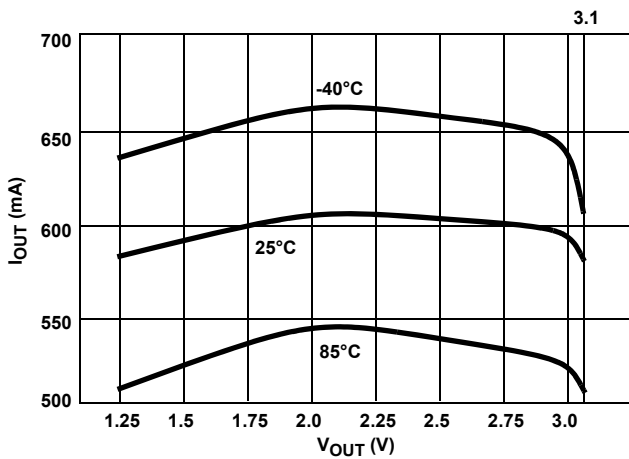

FIGURE 4. CURRENT REGULATION vs V_{OUT} (V_{IN} = 3.3V)
The ISL6118 has integrated current sensing on the power MOSFETs that allows for rapid control of OC events. Once an OC condition is detected the ISL6118 goes into its current regulation (CR) control mode. The ISL6118 CR level is set to a nominal 0.6A and is regulated to within $\pm 25\%$ over full temperature, bias voltage range and OC magnitude. The speed of this control is proportional to the level of OC. Thus a hard OC is more quickly controlled than a marginal condition. See Figures 4 through 7 for current regulation performance curves and waveforms.